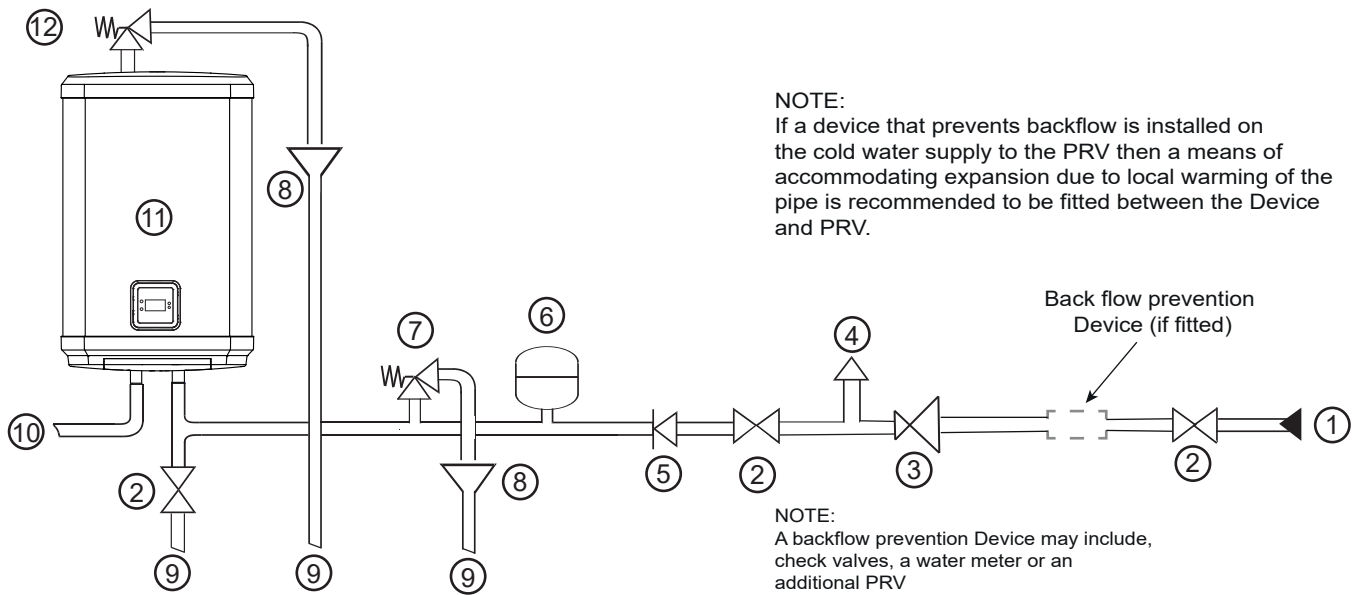

Figure 6: Typical installation - schematic (not to scale)
Refer to the installation schematic (figure 6, page 11) for details on the pipework layout. Specific details for the discharge pipework layout is also provided in figure 7 on page 14.
- ▶ A stopcock or servicing valve must be incorporated into the cold water supply to enable the appliance and its associated controls to be isolated and serviced. See Figure 6, page 11 for position.
- ▶ The location of the expansion vessel should allow access to recharge the pressure as and when necessary (see page 25). See figure 6 page 11 for positioning.